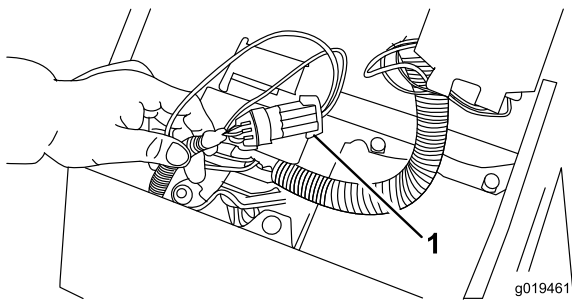

Figure 38
2. Open control panel cover. Locate wire harness and loopback connector. Carefully unplug loopback connector from harness connector (Figure 38).